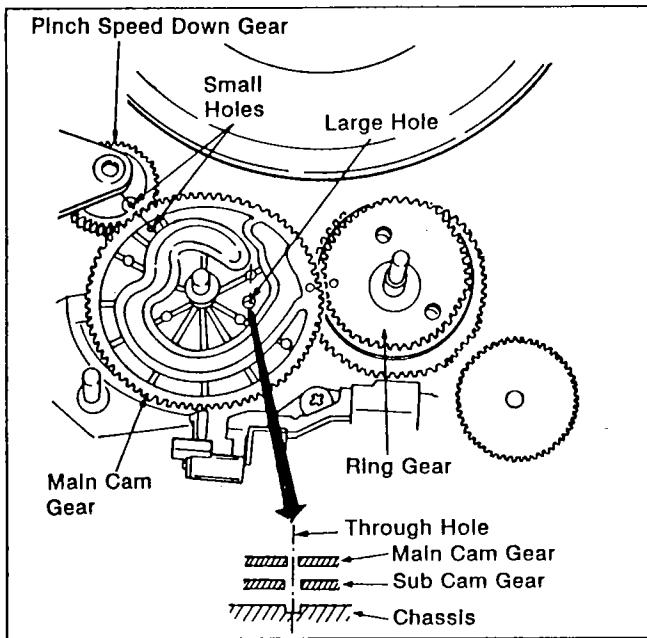

Figure M39
1. Install the Main Cam Gear onto the Sub Cam Gear so that the large hole on the Main Cam Gear aligns with large hole on the Sub Cam Gear and chassis as shown in Figure M39.
2. Install the Pinch Speed Down Gear from top side of chassis so that the outer hole on the Main Cam Gear aligns with small hole on the Pinch Speed Down Gear as shown in Figure M39.